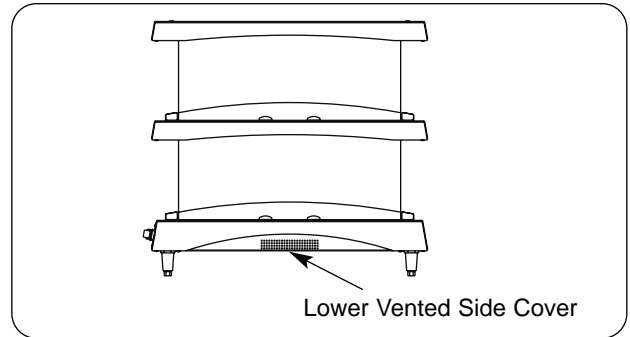

Figure 4. Leg Installation
4. Before installing legs remove lower vented side covers. (See Figure 4.)